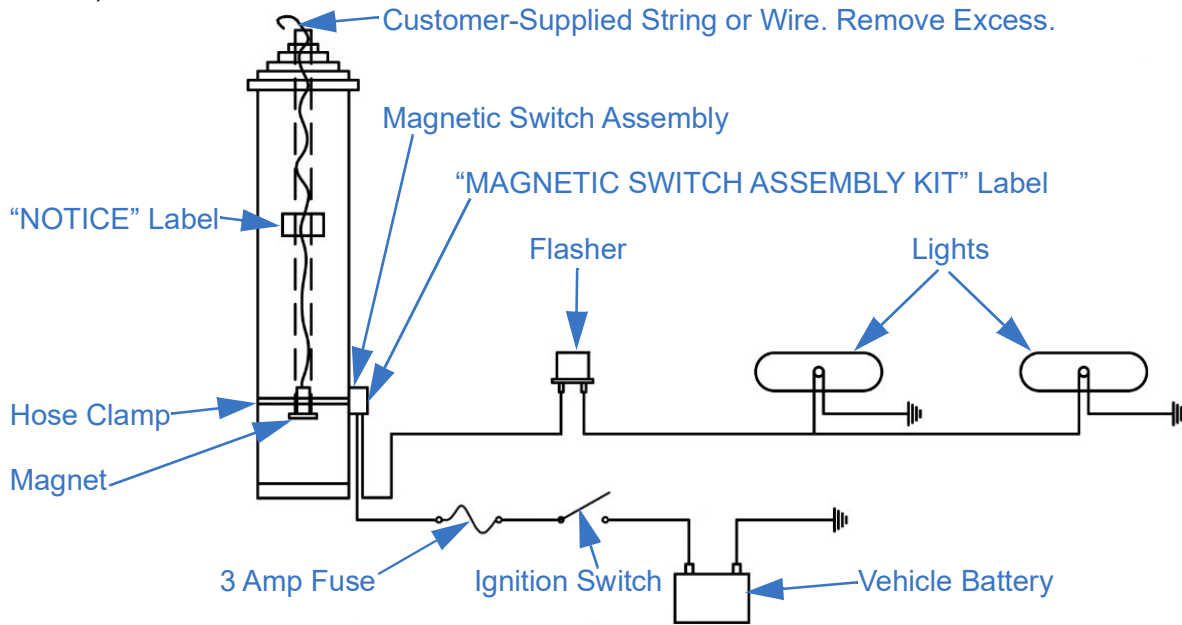

*Figure 5-28 Magnetic Switch Assembly Attached to Base Tube*
5. Attach the Magnetic Switch Assembly loosely around the base tube approximately 6 to 20 inches (15 to 51 cm) above the base plate (Figure 5-28). The Magnetic Switch Assembly can be located anywhere around the perimeter of the base tube.